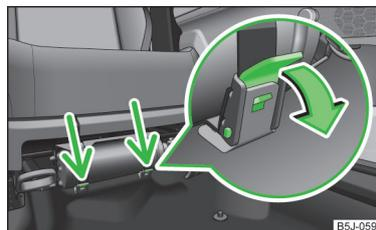

Fig. 139
- Loosen the two straps by pulling the buckles in the direction of the arrow » Fig. 139.